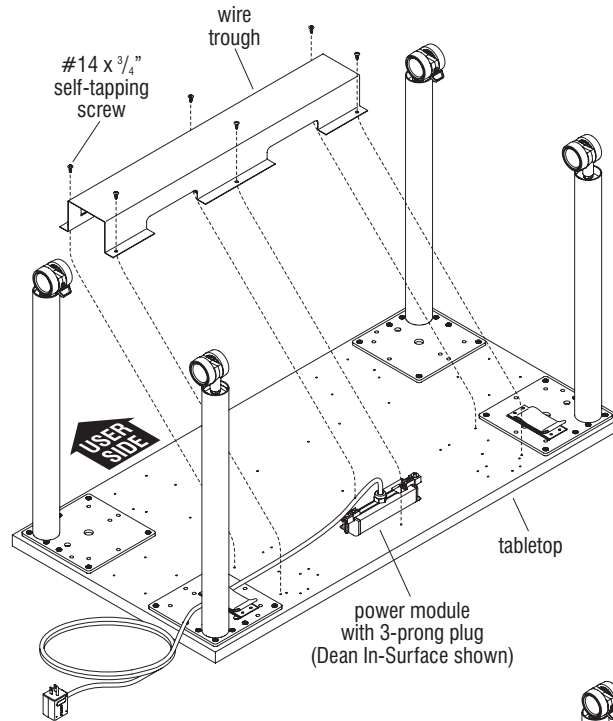
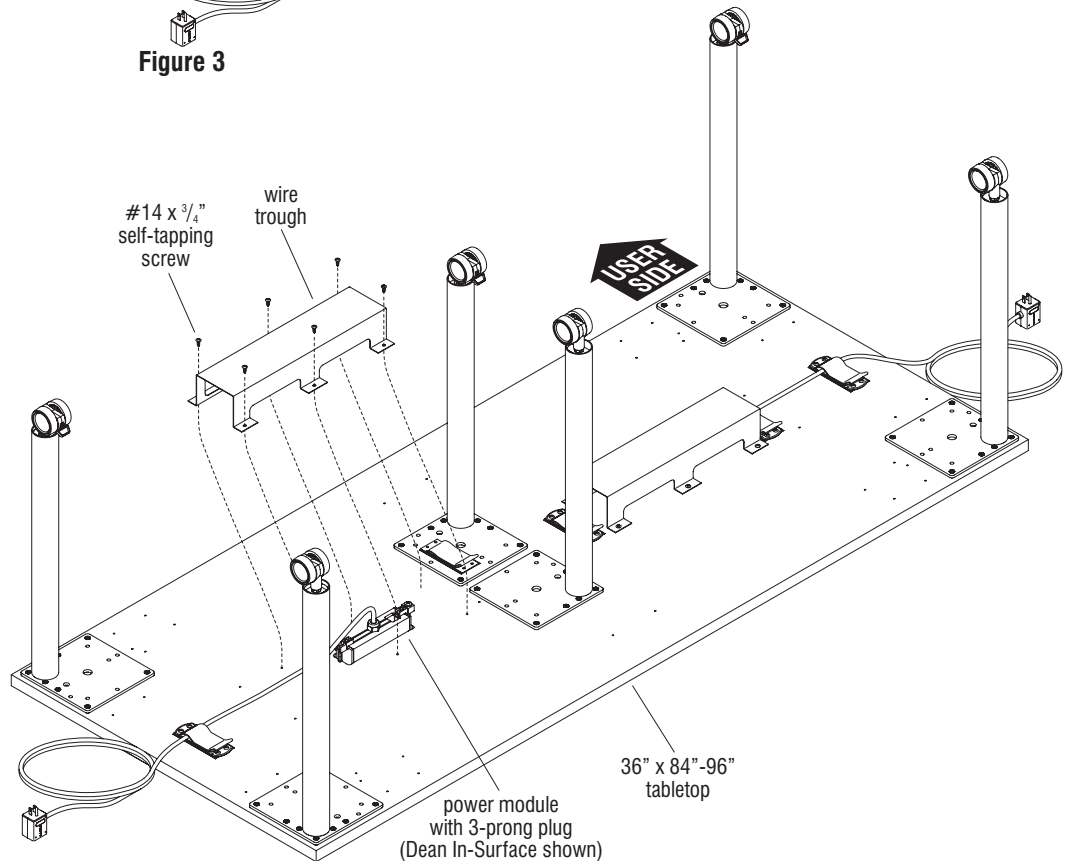

Figure 3
Figure 4
2. If wire troughs are provided, position the wire troughs over the underside of the power modules as illustrated, with the two smaller rectangular RPT mounting holes facing the back edge of the table. Route the power cord out of the end of the troughs. Align the wire trough mounting holes with the pre-drilled holes in the underside of the tabletop, and secure wire troughs to tabletop using six #14 x 3/4" self-tapping screws. Do not over-tighten (Figure 3 & Figure 4).